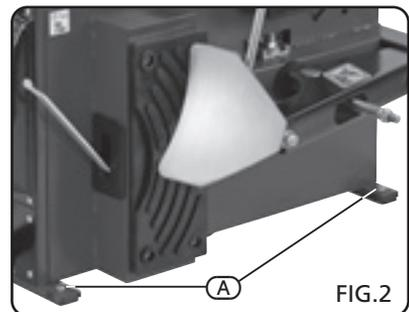

FIG.2
8.2 MOUNT THE TYRE CHANGER ON A FLOOR SURFACE (FIG.2).